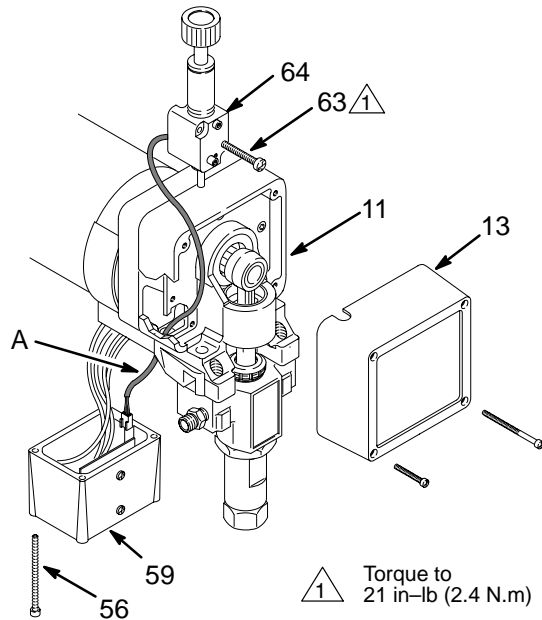

Fig. 30
7. Loosely install the screws (63) and then torque them to 21 in-lb (2.4 N.m).
8. Install the front cover (13). Connect the harness (A) to the motor start board (47).
**NOTE:** See Fig. 30 for this procedure.
**NOTE:** The pressure control (64) cannot be repaired or adjusted. If it has malfunctioned, replace it.
1. Remove the front cover (13). Remove the screws (56). Lower the junction box (59).
2. Disconnect the harness connector (A) from the motor start board (47).
3. Remove the screws (63). Pull forward on the pressure adjusting knob and tip the pressure control (64) forward and up to detach it from the drive housing (11).
4. Guide the harness (A) through the motor and drive housing and remove the pressure control.
6. Install the new pressure control. Tip the pressure control down and back into the drive housing (11). Do not pinch or damage the harness (A).